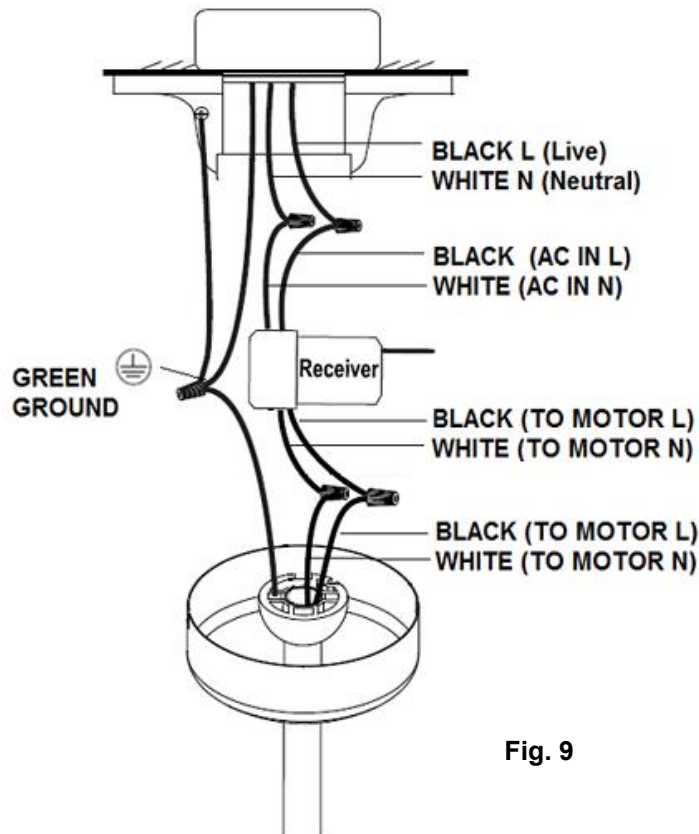

Fig. 9
1. Connect the household live supply wire (black) to receiver input wire (black, AC IN L) as shown in Fig. 9.